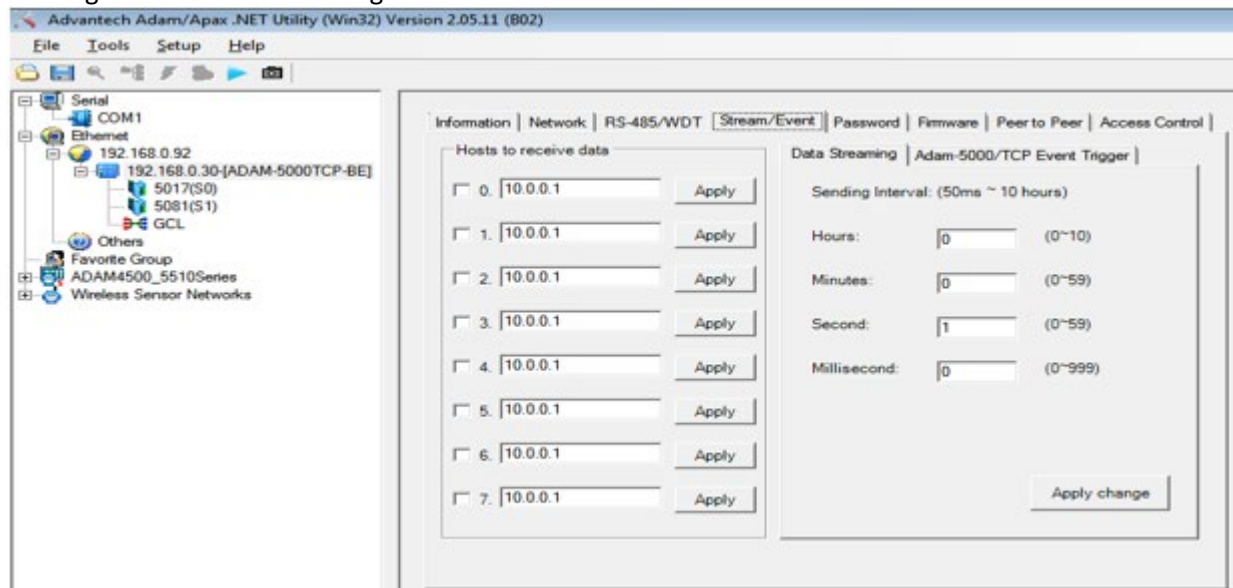

Figure 6 - Solar Radiation Sensor Stream/Event Configuration
15. Click the **Stream/Event** tab and enter a value of 1 second into the **Data Streaming** tab to establish a sending interval as shown in Figure 6.